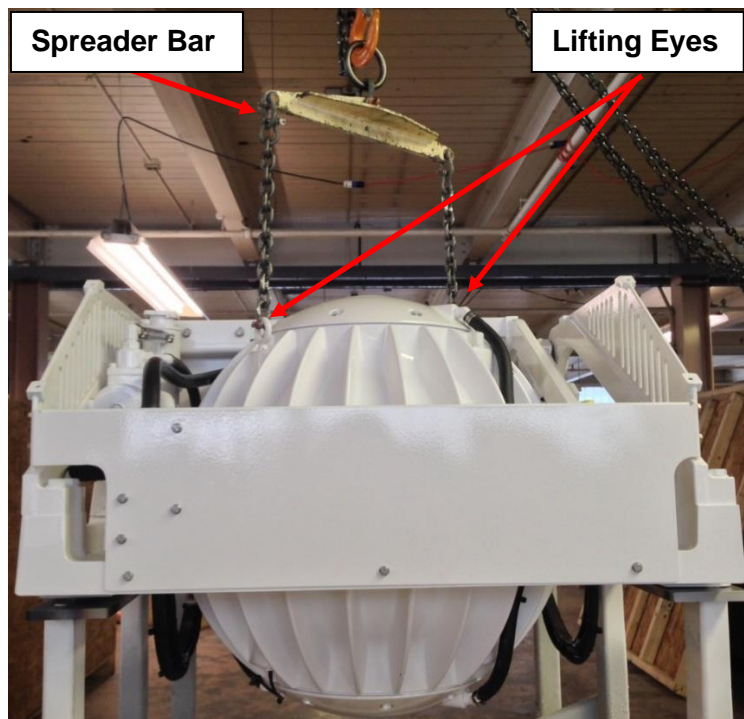

FIGURE 4 – LIFTING ARRANGEMENT
- 5) Attach spreader bar (Seakeeper #80061) to the two lifting eyes located on the top of the Seakeeper enclosure. Stay clear of any other parts on the Seakeeper. The Seakeeper weighs 1030 kg (2,270 lbs.). See Figure 4 below.